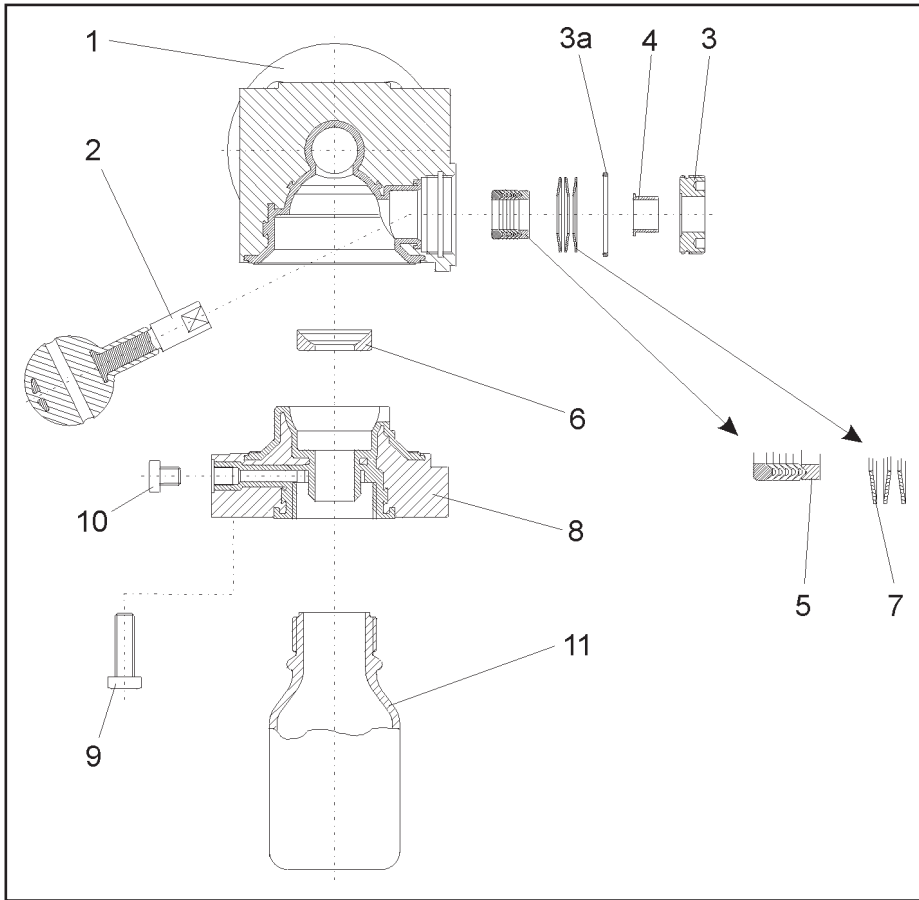

Fig. 3 - Explosion drawing series 27e
Following this, insert each V-ring separately, finishing with the stainless steel packing follower. Refer to the exploded drawing (Fig. 3) The peek ring is separated on one side, and inserted into the intended groove in the body.
Now the spring washers (7) can be inserted. For the exact arrangement of the spring washers, refer to the exploded drawing (Fig. 3)